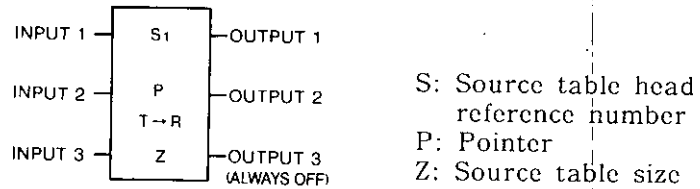

Fig. 5.53 $T \rightarrow R$ General Form
- Fig. 5.53 shows the form of block move.